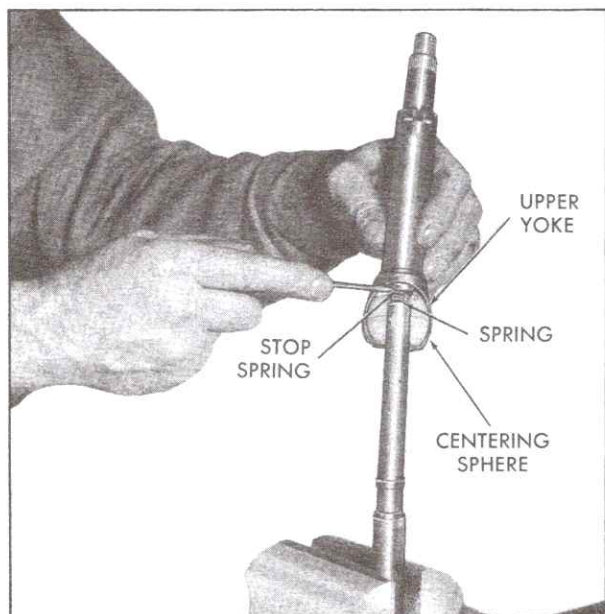

Fig. 9-56 Installing Spring and Stop Spring in Steering Shaft
19. Turn upper shaft slightly from center line of lower shaft and insert one end of spring into lower shaft coupling. Place stop spring over spring. Using a narrow bladed screwdriver, compress spring with screwdriver and slide stop spring in so that it seats in upper yoke, Fig. 9-56.